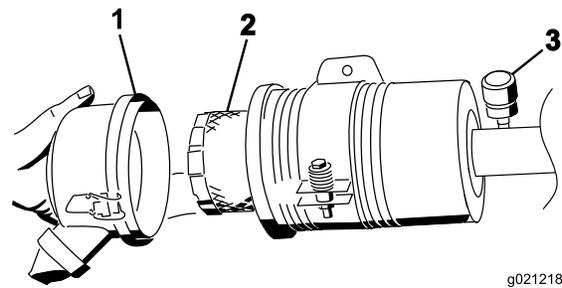

Figure 73
4. Remove and replace the filter (Figure 73).